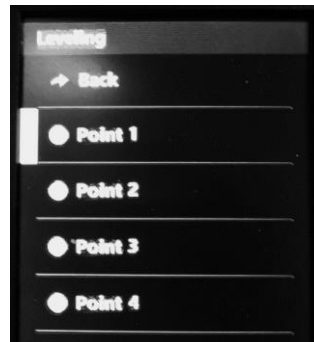

Fig 2
Step 3. Do **“Prepare>> Bed leveling>> Point 1”** on control panel(**Fig 2**), the nozzle will go to the corners of the bed, loosen the hand nuts under the hotbed (**Fig 3**) and let the nozzle almost touch the hotbed (**Fig 4**). Continue to do **“Point 2/3/4”** until all of the 4 corners has been leveled.